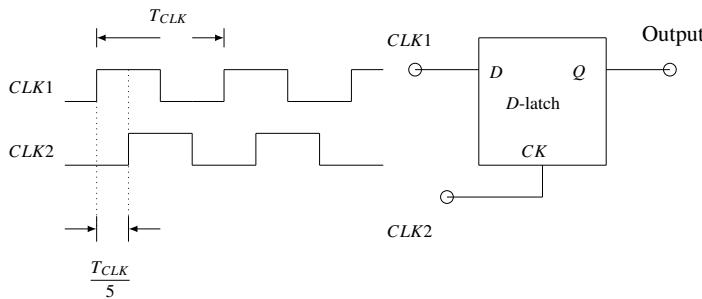

Fig. 5.16
16. Consider the D -Latch shown in Fig. 5.16, which is transparent when its clock input CK is high and has zero propagation delay. In the figure, the clock signal $CLK1$ has 50% duty cycle and $CLK2$ is a one fifth period delayed version of $CLK1$. The duty cycle at the output of the latch in percentage is _____. (GATE-EC2017)